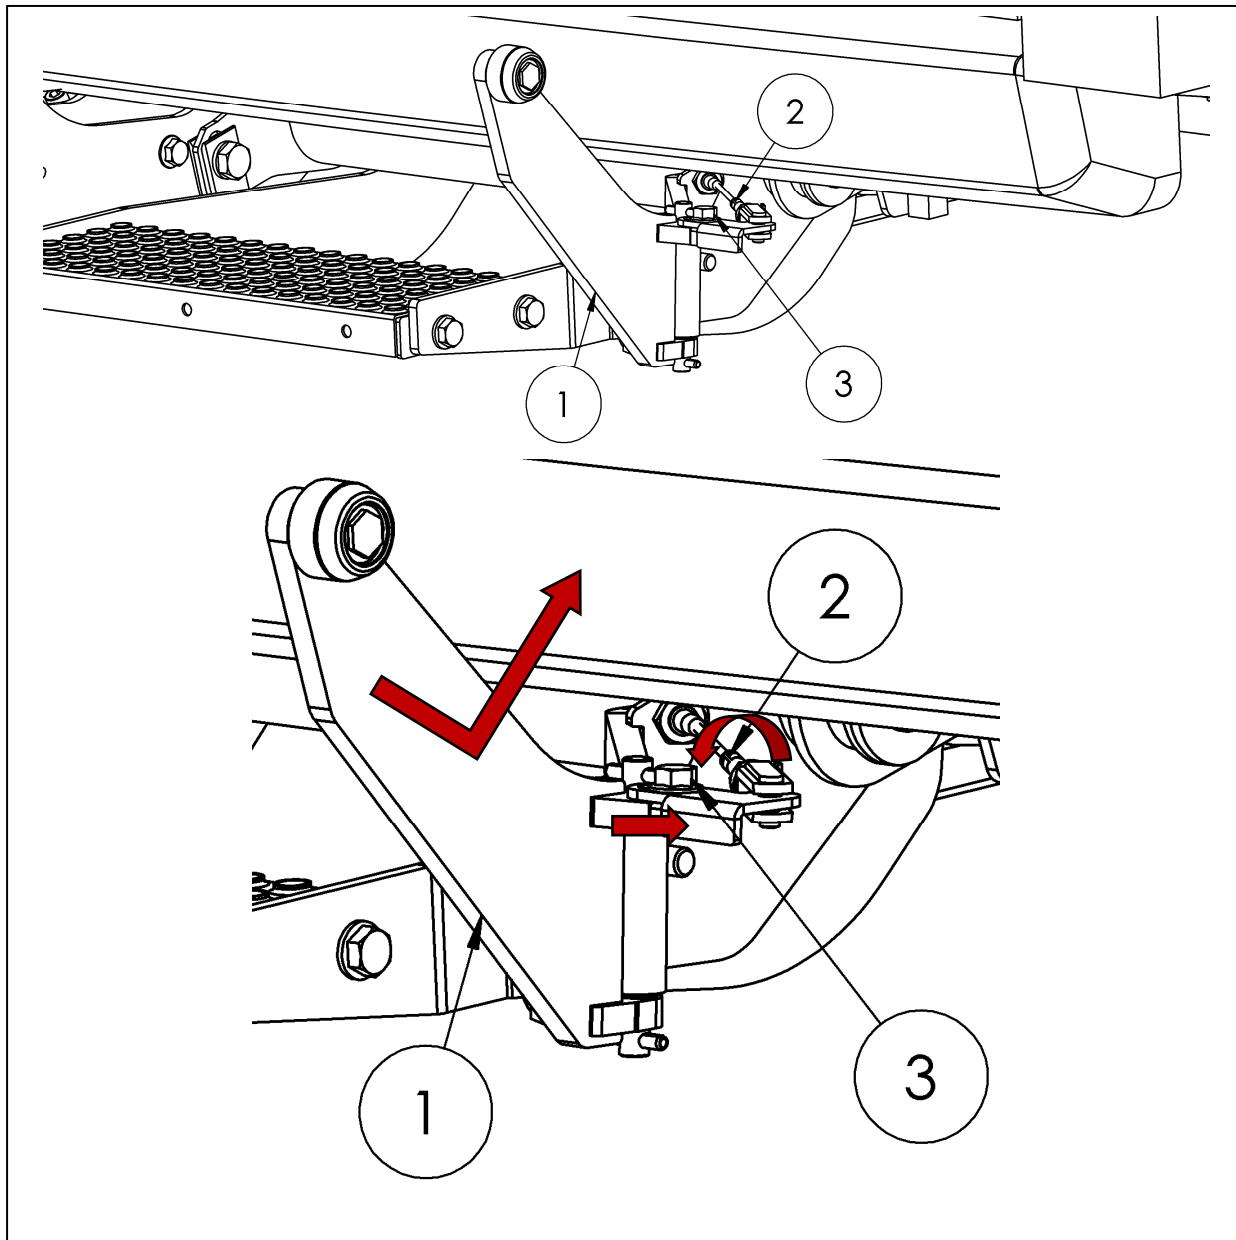

Fig. 81
Adjust the support arm (1) so that it can be pulled as close to the vehicle as desired when the platform is closed. The adjustment is made outside at the Bowden cable (2) and, if applicable, also at the screw on the lever (3). While making the adjustment, release the Bowden cable (2) and open the platform (see Fig. 81).